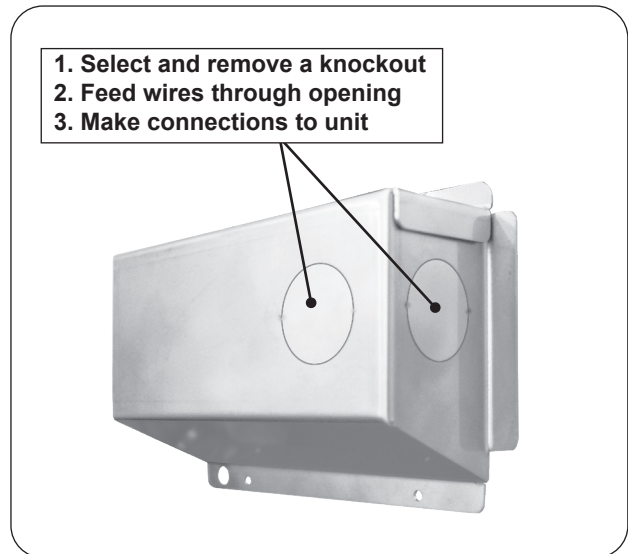

Fig. 28-1 Junction box knockouts
2. Remove the junction box located on the rear of the unit. Select and remove a knockout from the junction box that will best suit your electrical setup. Route the wiring through the selected knockout opening. See Fig. 28-1.